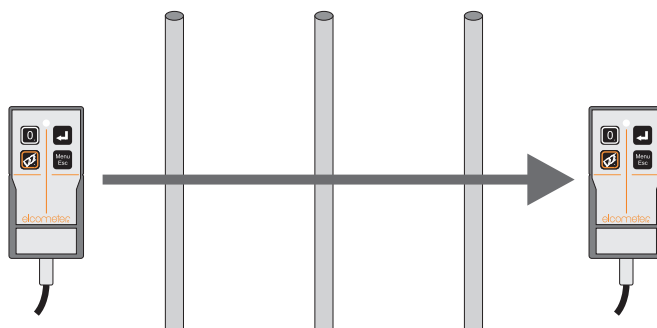

Figure 9. Align search head and scan across bars
7. Maintain the alignment of the search head and move the search head across the search area (Figure 9).